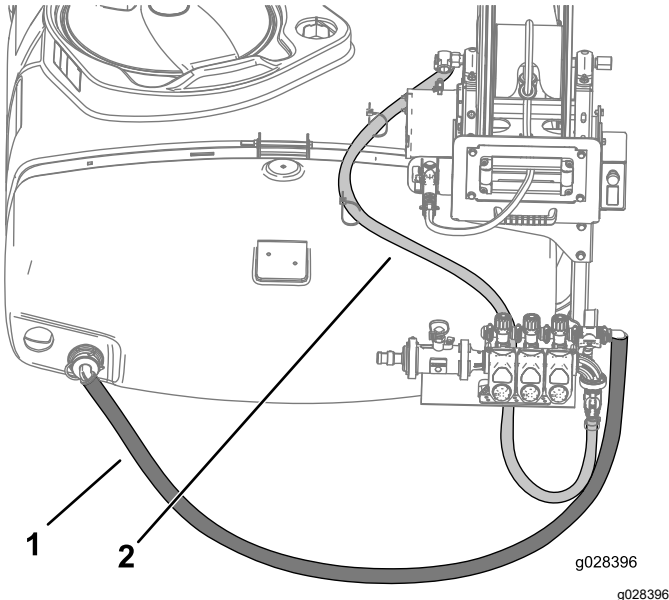

Figure 14
13. Route the hose-reel supply hose as shown in Figure 14 and attach it to the hose reel with a hose clamp.